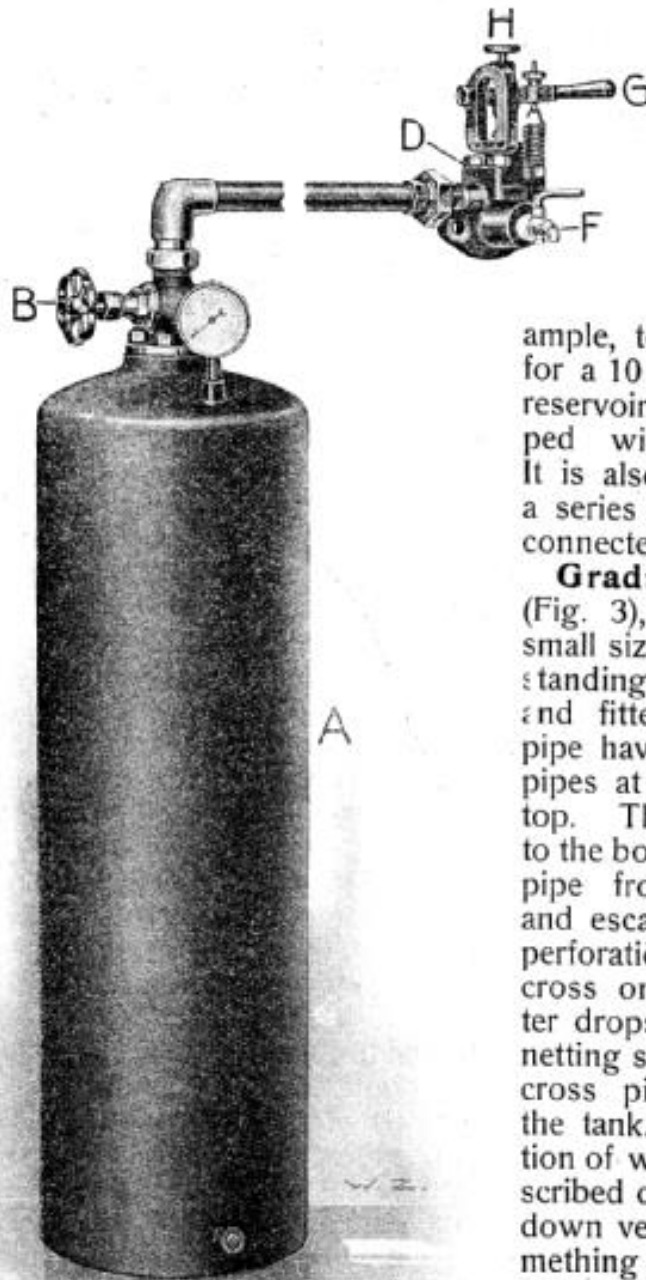

Fig. 4.
**Starting Appliance** (Fig. 4), furnished with engines of sizes from and incl. No. 30 and upward and multible-cylinder engines, is to be placed in